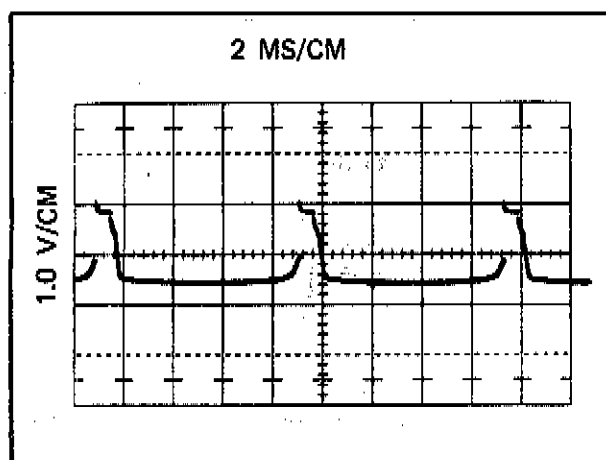

Figure 4-16. PRE-REGULATOR Q1, WAVEFORM ON STDBY/RESET
- Set the POWER switch to STDBY/RESET. The oscilloscope waveform should appear as shown in Figure 4-16.